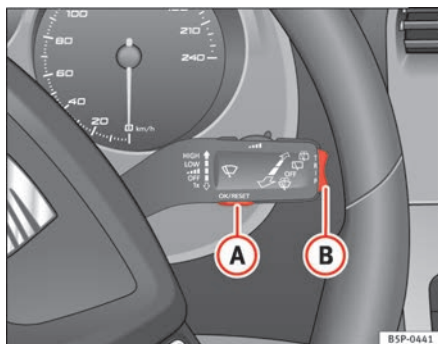
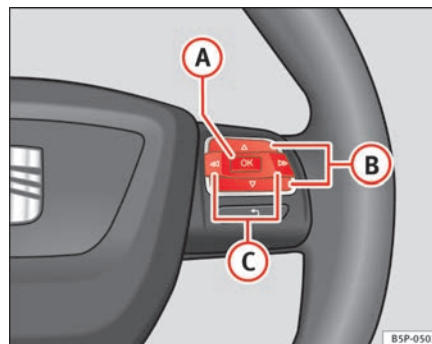

Fig. 42 Windscreen wiper lever: button A to confirm the menu selection and rocker switch B to change the menu
Fig. 43 Steering wheel controls: button A to confirm the menu selection and switch B to change the menu
⇒ page 64, fig. 43 until the menu is displayed. Now you are in this menu.
- To change from one memory to another, briefly press button **A** ⇒ page 64, fig. 42 ⇒ page 64 on the windscreen wiper lever or the **OK** button on the multifunction lever ⇒ page 64, fig. 43 ⇒ page 64 while the ignition is switched on. ▶
The following data can be viewed on the multifunction display using the rocker switch **(B)** ⇒ page 64, fig. 42 ⇒ page 64 on the windscreen wiper lever or by pressing button **(Δ)** or **(▽)** ⇒ page 64, fig. 43 on the multifunction steering wheel*.